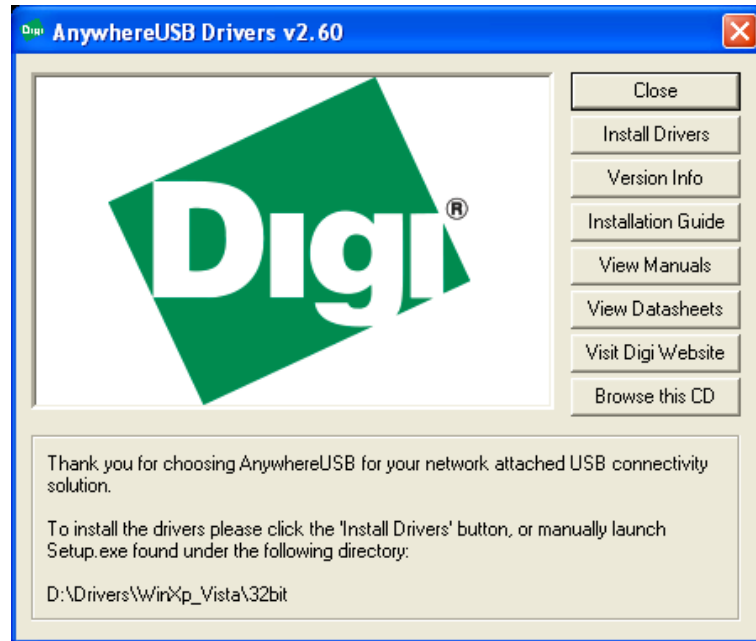

Figure 3
2. Select Install Drivers from the Digi splash screen (see Figure 3). If the Digi splash screen does not launch, run the AWSplash.exe program from the CD.
2. Select Install Driver from the Digi splash screen (see Figure 3).